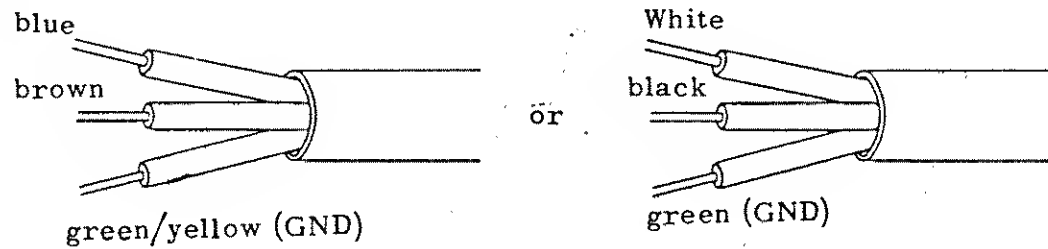

Fig. 1
- ☐ Power Cable: to 3-core cable (See Fig. 1 for the colors)